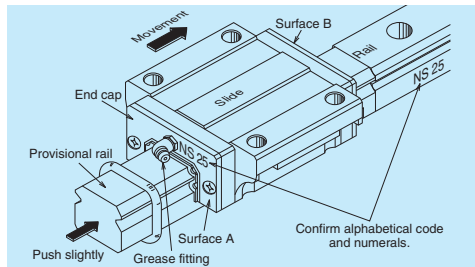

Fig. 10.23 Installing slide onto rail
- Interchangeable (also called "random-matching") linear guide slides come delivered on a provisional rail (installation tool) (Fig. 10.23).
- (1) Wipe off the rust preventive oil from the rail and slide.
- (2) Please match groove mark for the datum surface of slide and rail to set desired assembling state W_2 or W_3 .
- (3) Align the provisional rail to the rail bottom and side surfaces. Press the provisional rail lightly against the rail, and move the slide onto the rail (Fig. 10.23).